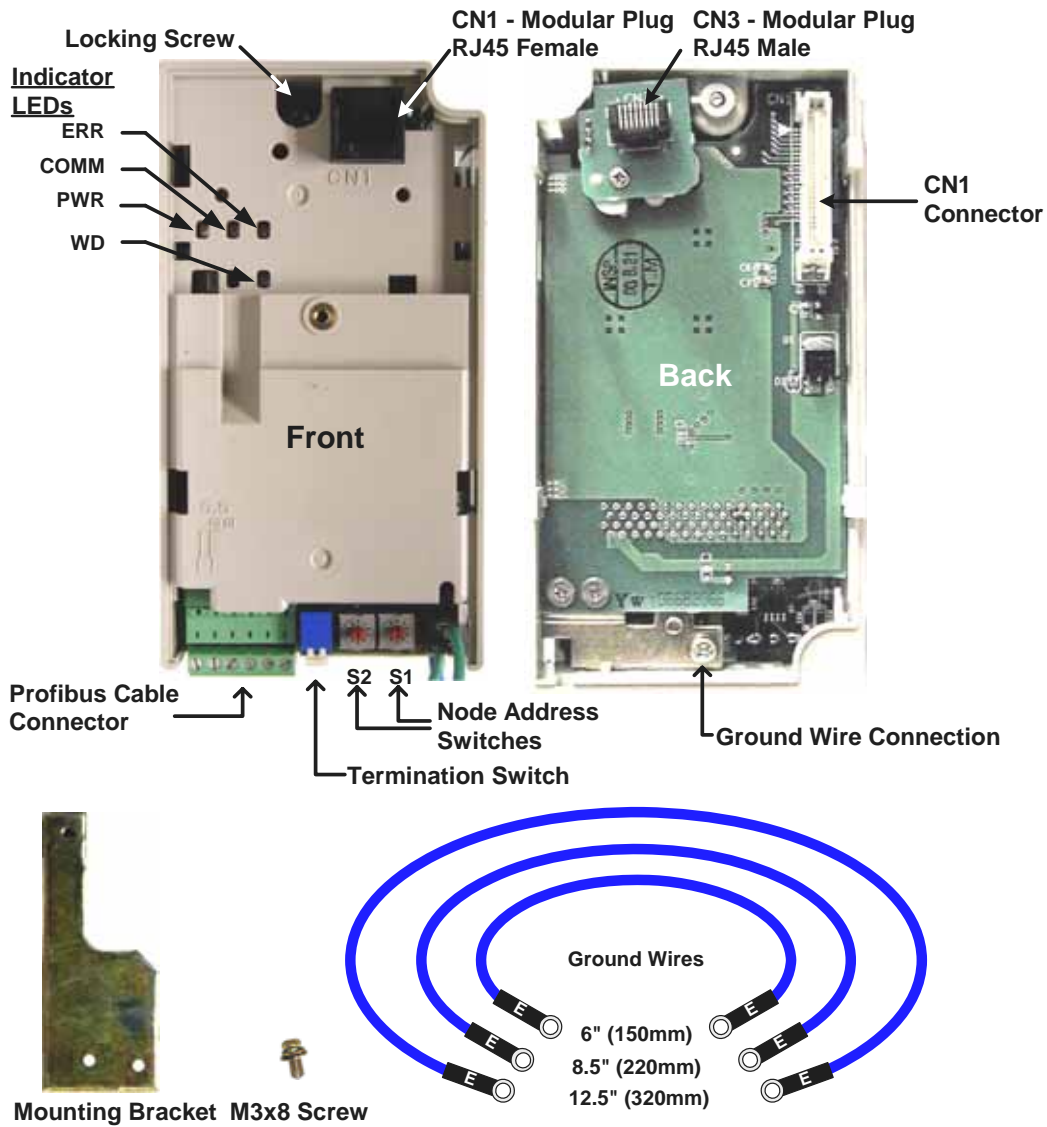

Figure 1.1 – V7 PROFIBUS-DP Option
- 1:** Unpack the *V7 PROFIBUS-DP Option* and verify that all components are present and undamaged. Refer to **Figure 1.1 – V7PROFIBUS-DP Option, Table 1.1 – Product Parts List** .